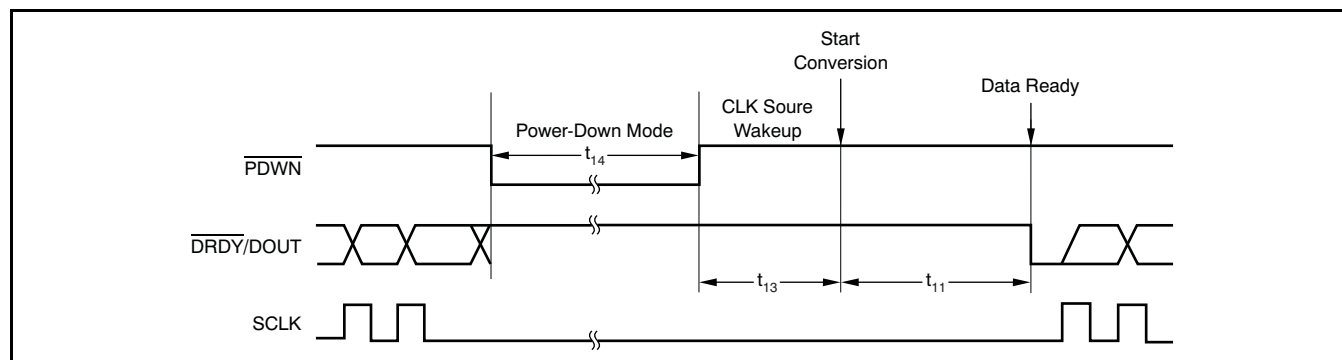

Figure 41. Wake-Up Timing from Power-Down Mode
Power-Down mode shuts down the entire ADC circuitry and reduces the total power consumption close to zero. To enter Power-Down mode, simply hold the PDWN pin low. Power-Down mode also resets the entire circuitry to free the ADC circuitry from locking up to an unknown state. Power-Down mode can be initiated at any time during readback; it is not necessary to retrieve all 24 bits of data beforehand. Figure 41 shows the wake-up timing from Power-Down mode.
- Changed Figure 41. 23
- Added last row and second footnote to table below Figure 41. 23